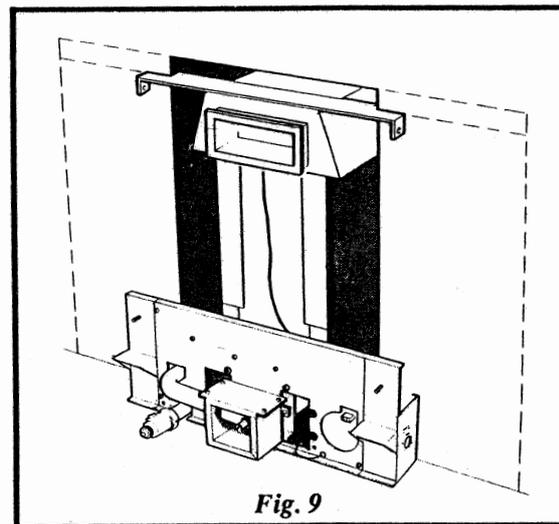

Fig. 9
12.4 Install the boiler - see Figs. 9 and 10.
- The spacing channel is rebated at each end to locate the boiler centrally in the fireplace opening and back to the face of the fire surround or wall. Push the boiler back into the opening until both ends locate as shown in Fig. 9. If the opening is wider than standard the same relative position must be established using a straight edge across the front wall, lining up the front edges of the rebates as shown in Fig. 9.